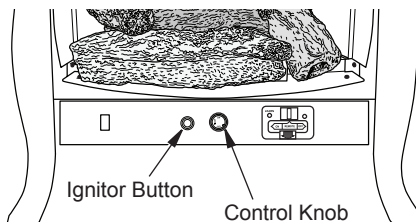

Figure 19 - Ignitor Button and Control Knob Locations
4. Push in control knob slightly and turn clockwise ↻ to the OFF position (see Figure 19).
5. Wait five (5) minutes to clear out any gas. Then smell for gas around stove and near the floor. If you smell gas, STOP! Follow "B" in the safety information above. If you do not smell gas, go to the next step.
6. Push in control knob slightly and turn counterclockwise ↻ to the PILOT position. Press in control knob for five (5) seconds.